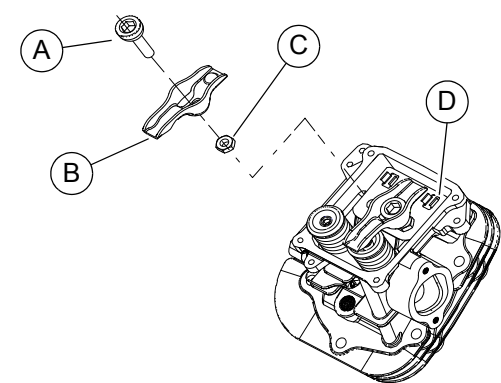

Figure 13-15. Install Rocker Arms
- 2. See Figure 13-15. Assemble ball studs (A), rocker arms (B), jam nuts (C), and guide plates (D) on cylinder head.